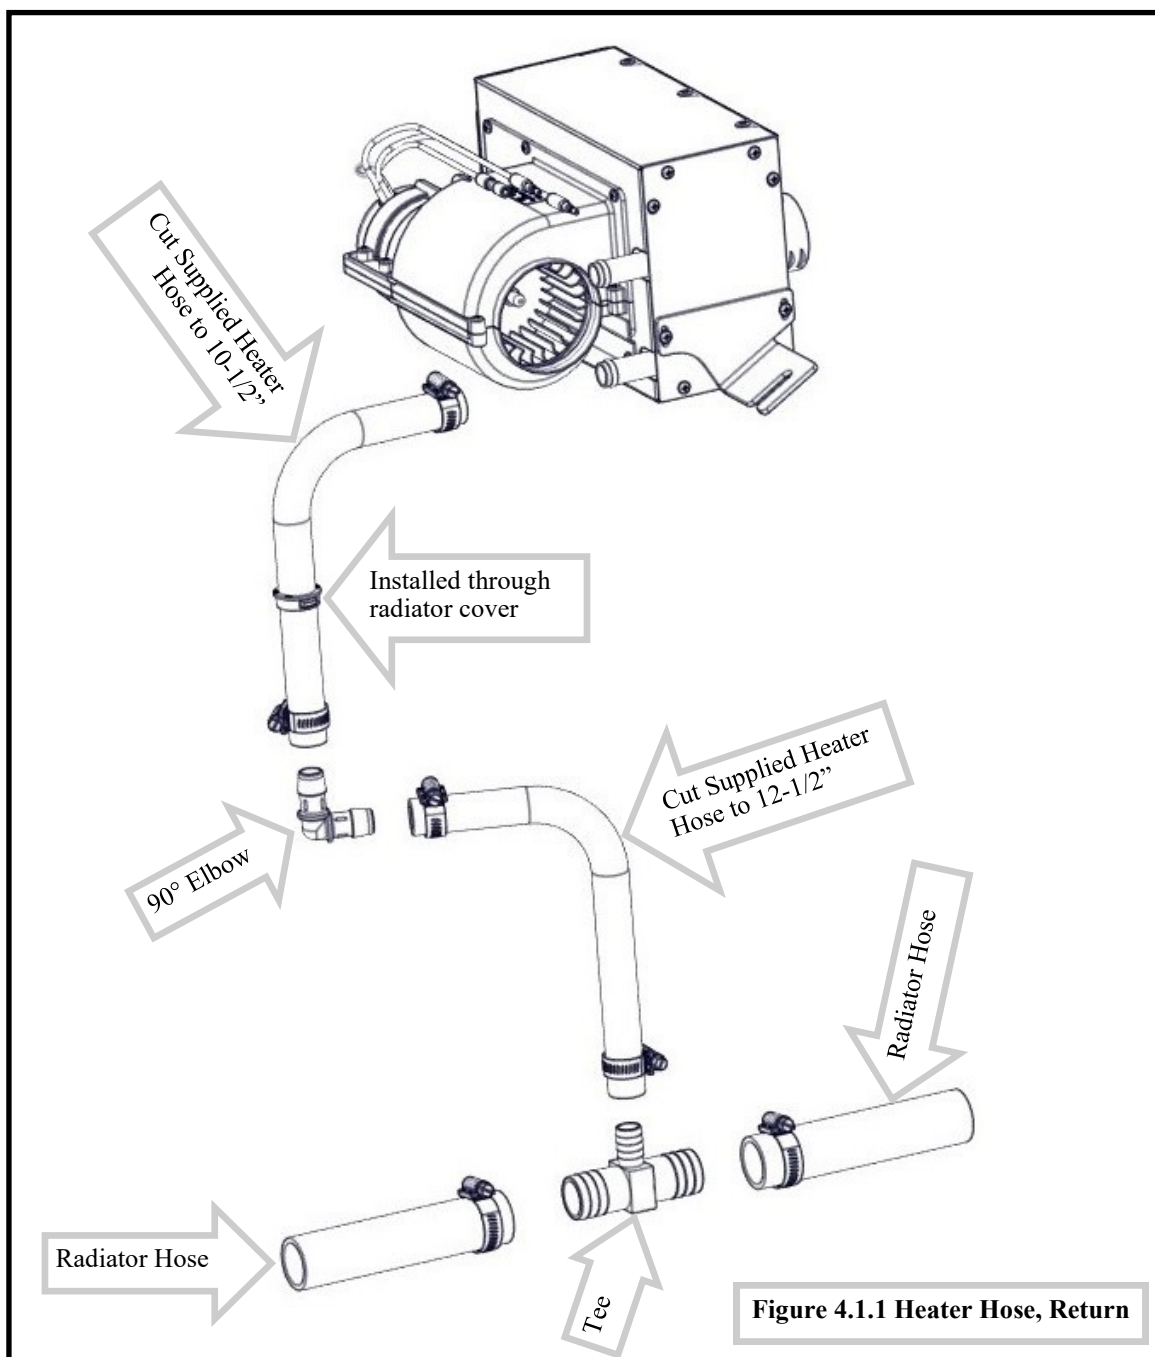

Figure 4.1.1 Heater Hose, Return
- 4.1 With all of the coolant drained from the system, cut the return line of the vehicle radiator hose. Insert the Tee Fitting and secure each end with large hose clamps. (Figures 4.1.1, 4.1.2)
- 4.2 Connect a 10-1/2" length of the supplied heater hose to the lower port of the heater. Run this length of hose through the other plastic grommet, and connect to an Elbow Fitting underneath the hood compartment. Secure each end with small hose clamps. (Figures 4.1.1, 4.1.2)
- 4.3 Connect a 12-1/2" length of the supplied heater hose to the Elbow Fitting. Run this length of hose to the Tee Fitting. Secure each end with small hose clamps. (Figures 4.1.1, 4.1.2)